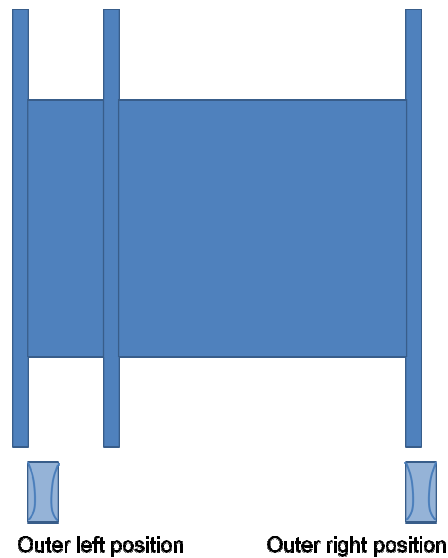

Figure 5: Levelwind range
4. The range of the levelwind shall be as indicated in Figure 5.